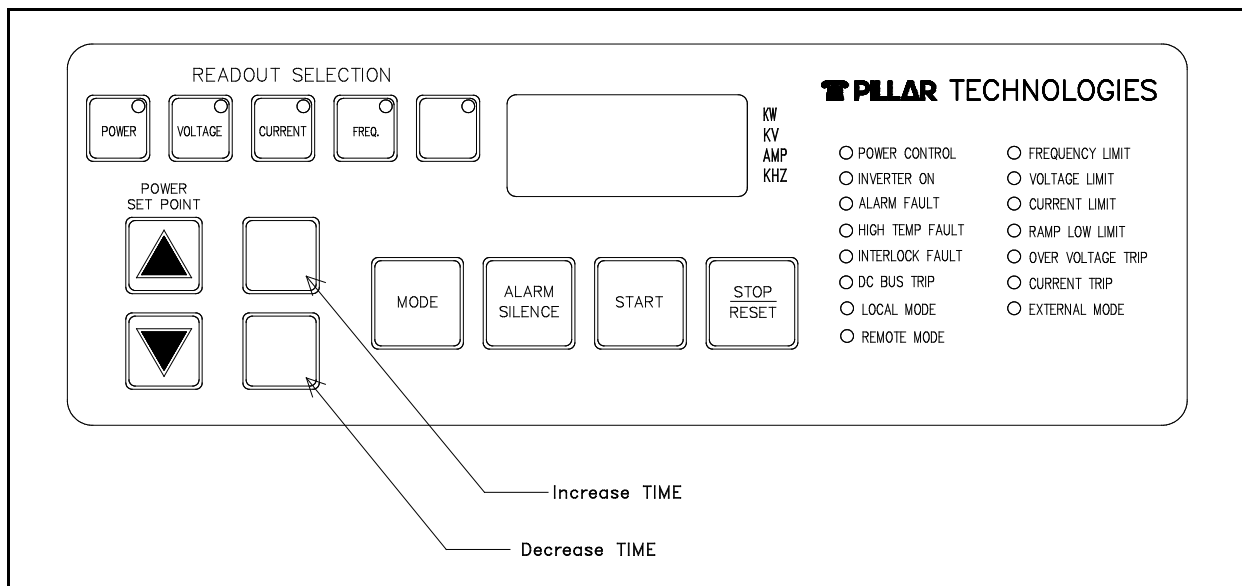

Figure 2 – Humidity Compensation Time
1. To adjust the compensation time, use the two buttons to the right of the power set point up/down arrows as shown in Figure 2. The top button will increase the time up to 30 minutes and the bottom button will decrease the time down to 1 minute. **The time may not be adjusted while the inverter is on.**